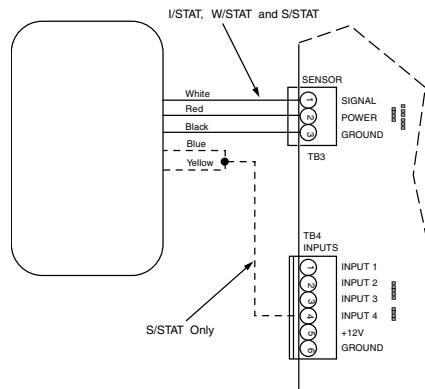

Figure 19. I/STAT Connection
1. Connect the I/STAT, W/STAT or S/STAT white, red, and black conductors to TB3-1 through TB3-3 (Signal, Power, and Ground) as shown in Figure 19.